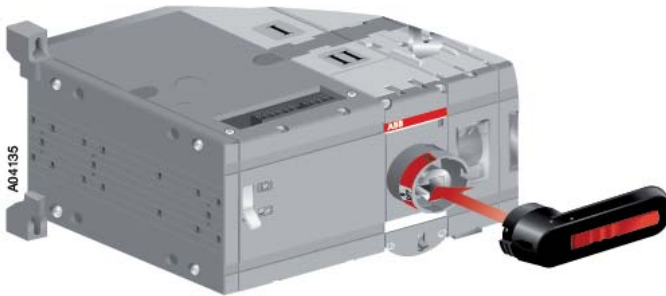

Figure 6.6 Attaching the handle
2. Attach the handle by pressing it to the change-over switch panel until it clicks into place. You can attach the handle in all positions (I, 0, II), see Figure 6.6.